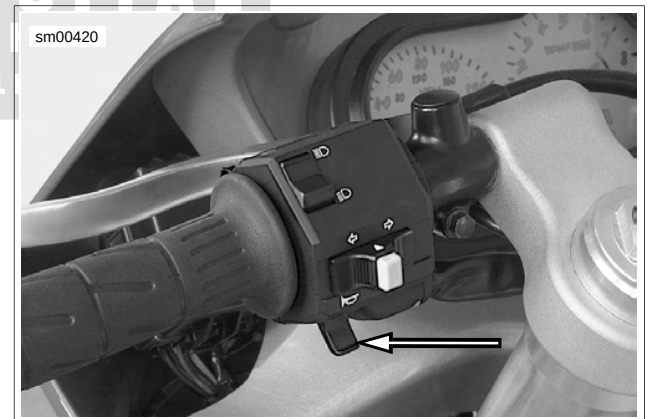

Figure 7-40. Horn Switch
- See Figure 7-40. Depress horn switch and observe voltmeter reading.